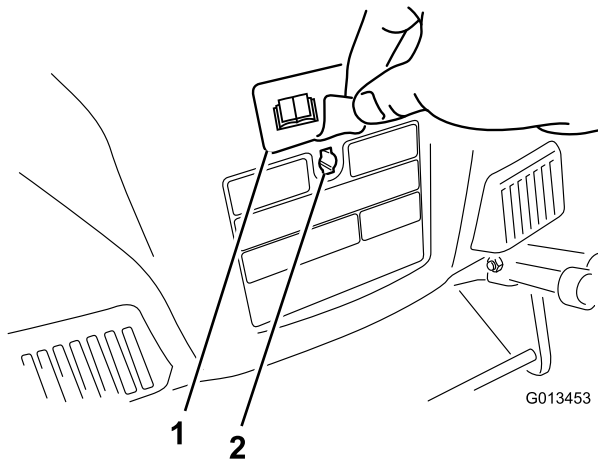

Figure 5
3. Remove the decal that covers the keyed hole in the back of the housing (Figure 5).